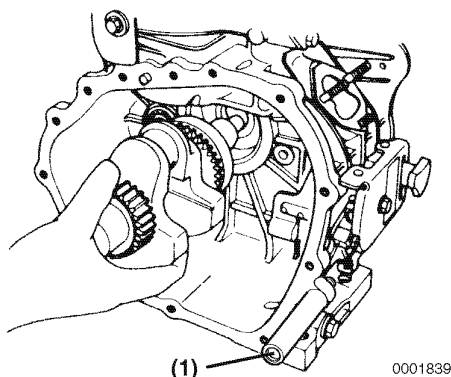

Figure 8-48
17. Remove the crankshaft from the open end of the crankcase. It will be necessary to use a heavy soft-faced hammer to drive the crankshaft out of the crankcase and drive the large main bearing out. Reinstall the flywheel nut to protect crankshaft threads while driving crankshaft and large bearing out. Keep crankshaft aligned as it is driven out by supporting the opposite crankshaft end (**Figure 8-48**).
18. **NOTICE:** Do not attempt to adjust or remove the fuel limiter (**Figure 8-48, (1)**) assembly from the crankcase.